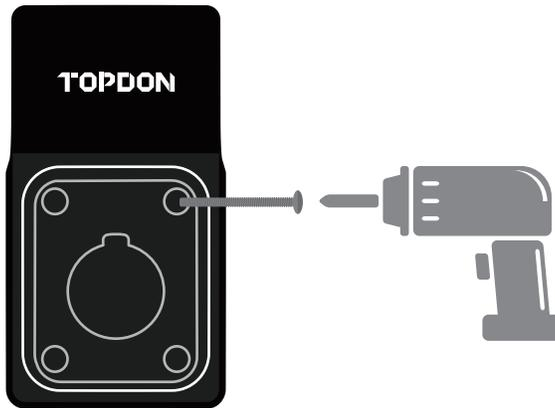

Fig. 5-23
5. Fix the charging dock on the wall with the expansion screws included in the package. (See Fig. 5-23)